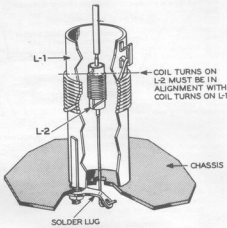

FIGURE 8. HOW TO WIRE L-2
- () Place L-2 inside and in the center of L-1 as shown in Figure 8. The turns on each coil must be in line. Proper positioning of L-2 requires that you use the full length of the end lead which will be connected to TS-3. Insert this end lead through a 1¾ inch length of spaghetti. Solder it to terminal 1 of TS-3. Solder the other lead to the solder lug on the outside of the chassis.